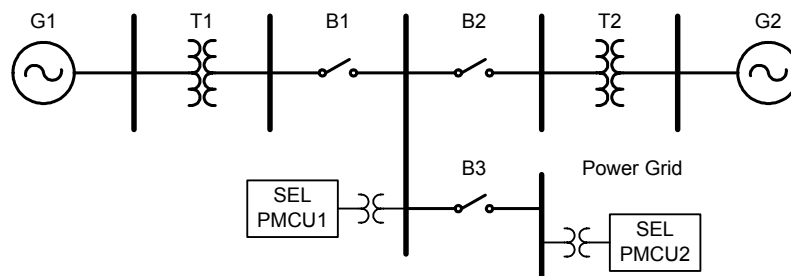

Figure 1 Simplified Power System for a Black-Start Exercise
Consider the simplified power system shown in Figure 1.
- Close circuit breakers B1 and B2 (Figure 1) to connect the hydrogeneration to the thermal generation.
- Reconnect the coal-fired units to an energized power grid through a synchronized-switching procedure (across circuit breaker B3 in Figure 1).